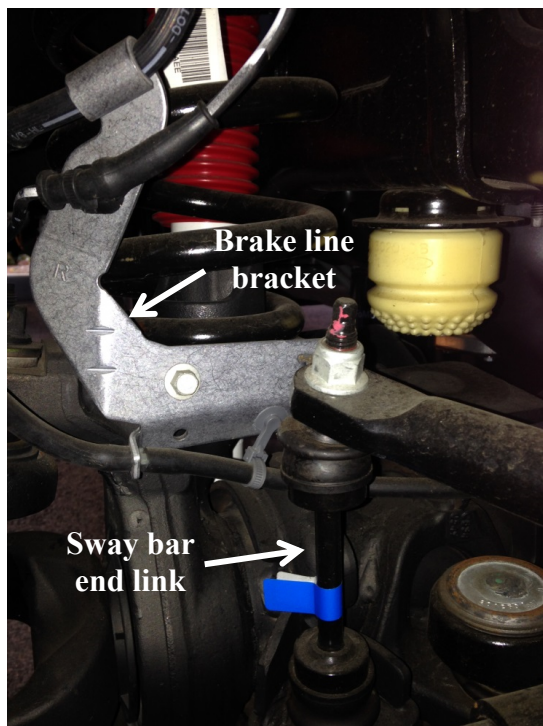

Figure 1
4. Remove the brake line bracket from the axle housing near the lower spring perch. This will allow the brake line to extend without failure. Figure 1 and 2 show two different versions of the brake line bracket. Depending on the year of your vehicle the brake line bracket design may be different but the same principal should still apply.
5. Disconnect sway bar end link at one of the attachment points. See Figure 1 and 2 for two different versions of the sway bar and end link. Depending on the year of your vehicle the end link design may be different but the same principal should still apply. Pull link out of mount hole and secure sway bar to frame. *Failure to do this will result in possible damage to sway bar attachment points.*